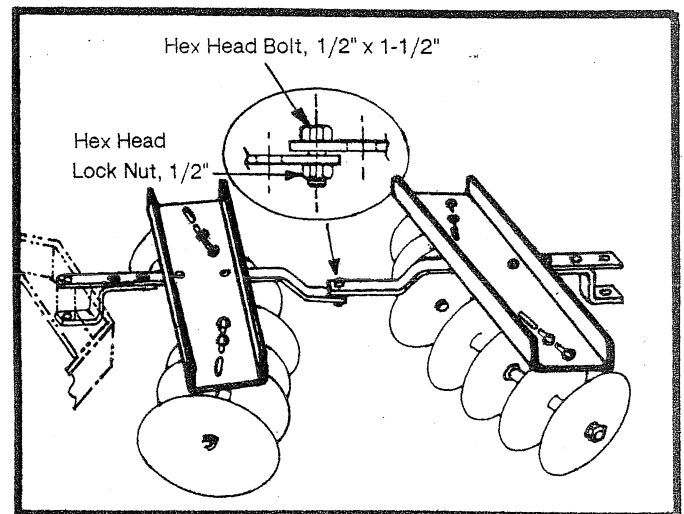

Fig. 6
- Determine your requirements for Disk Angling and Spacing. (Refer to Fig. 6 & 7) Disk Gang Angles are adjustable for 10, 15, & 20 degree Angles. The 15 degree position (center of the Adjusting Slot in Disk Hanger) is recommended to start. The 10 and 20 degree Angles are for less aggressive or more aggressive Disking Action.
Refer to Fig. 6 & 7